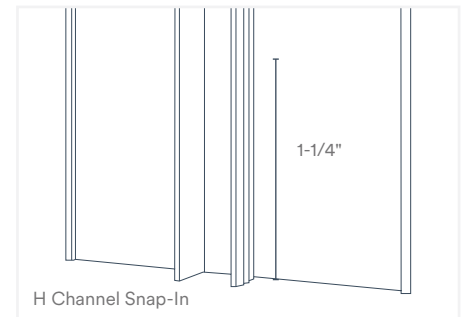

Fig. 27
3. Measure and mark 1-1/4" inwards from the bottom edge (end) of the H Channel Snap-In Trim. At the mark, make a vertical snip in both grooved standoffs using tin snips (Fig. 27).